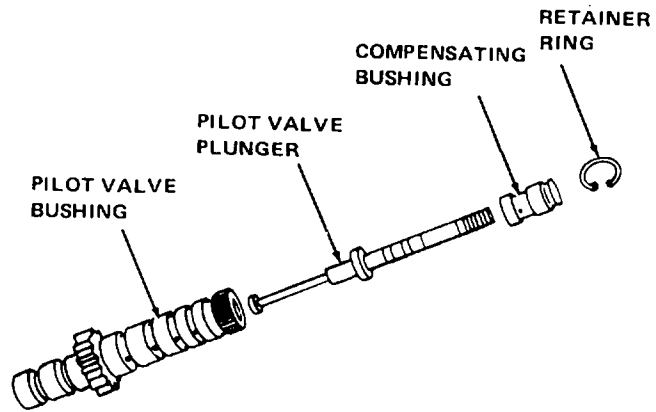

Figure 11-14. Governor Pilot Valve Bushing Assembly
(8) Assemble pilot valve plunger parts as shown in figures 11-14 and 11-15.